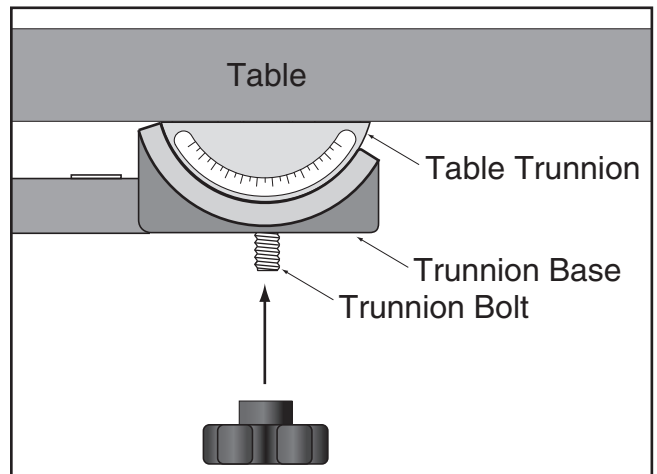

Figure 13. Table installation on trunnion base.
- Thread (2) M10-1.5 knobs onto the trunnion bolts hanging through bottom of trunnion base, as illustrated in **Figure 13**.